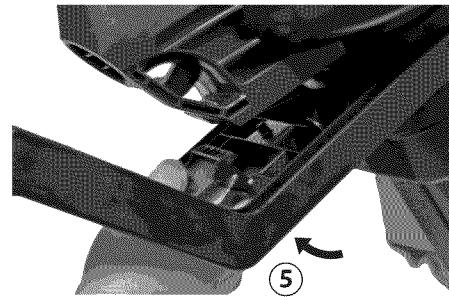

Figure 3-11: Pivoting vacuum tube adapter to blower/vac housing
6. Pivot vacuum tube adapter assembly to bottom of blower/vac housing. Slightly press locking lever on vacuum tube adapter to allow adapter to lock into place (see Figures 3-11 and 3-12).